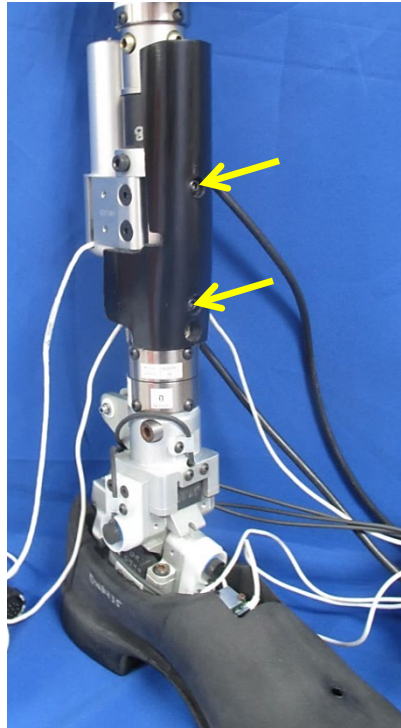

Figure 12-65. Mount tibia guard
- 12.2.2.46 Mount the Tibia Guard (472-7115) to the front of the lower leg assembly using a two M6 x 1 x 16 BHCS (Figure 12-65). Take care not to pinch the tibia accelerometer wires routed on the right rear side of the tibia guard.